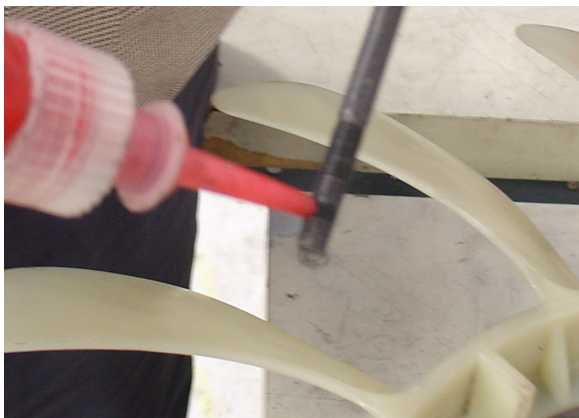

Figure 16
- Use a drop of red loctite at the bottom of each capscrew (00-9001-C16379*) (Figure 16)